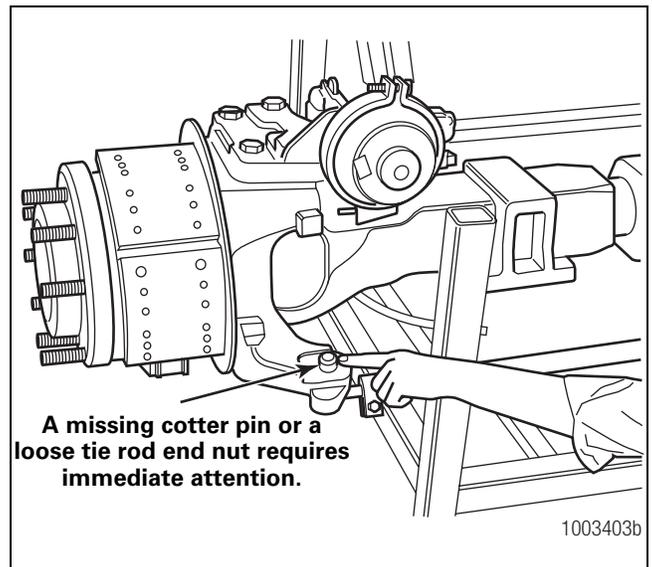

Figure 5.10
- **If the cotter pin is missing:** Check the nut torque specification. Install a new cotter pin. Always tighten the tie rod end nut to 300 lb-ft (407 N•m) when installing the cotter pin. Figure 5.10.